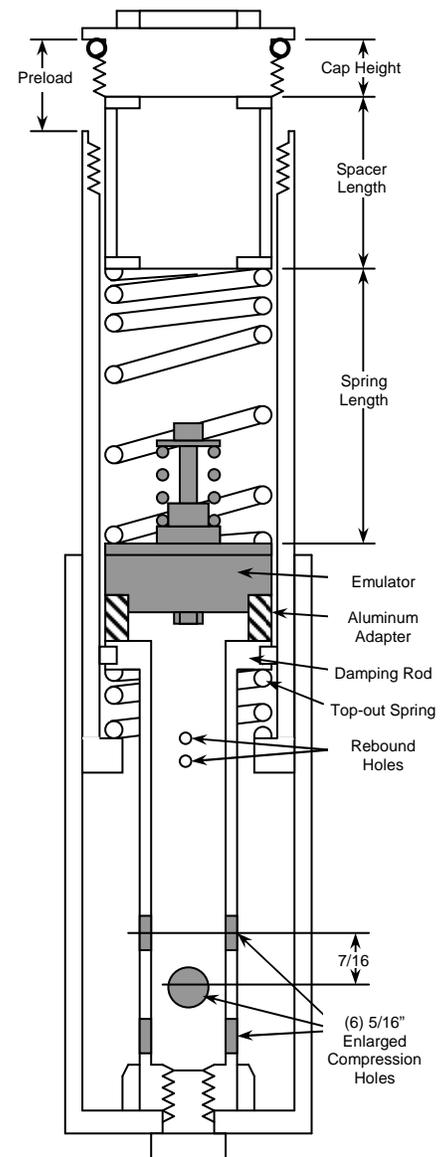

Figure 1
- 2 Drill the existing Compression Holes larger and add additional holes. No matter how many compression holes come stock, you must end up with six 5/16 inch (8 mm) holes (3 sets of 2 holes) (see Figure 1). When drilling new holes, space them lengthwise at 7/16" (10 mm) increments. Each set of two holes must be perpendicular to the last set (figure 1). After drilling, chamfer and deburr the compression holes, inside and out. **Do not modify the rebound holes.**
- 5 Spring preload is the amount the spring is compressed when it is installed with the forks fully extended. Do this step with no fork fluid. (See figure 1) Extend the fork all the way. **Install the Aluminum Adapter and the Emulator** by dropping them down the fork tube. The Emulator must sit on top of the Adapter with the Emulator Valve Spring facing up. Visually check to make sure the Emulator is sitting squarely on top of the Adapter.
**Cut the spacers** with a tubing cutter (available at hardware stores). Washers must be installed on both ends of the spacer. The spacer must not rest on the spring or the cap directly. Double-check your preload by stacking the spring, spacer, washers and cap and measuring the distance from the sealing lip on the cap to the top of the fork tube (see Figure 1).